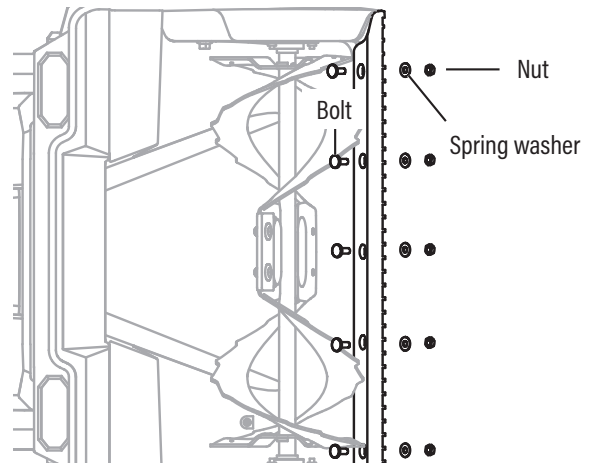

Fig. 2
2. Use a Hex wrench to remove the 5 nuts and washers under the bottom of the housing. Remove the worn scraper bar from the snow blower (Fig. 2).